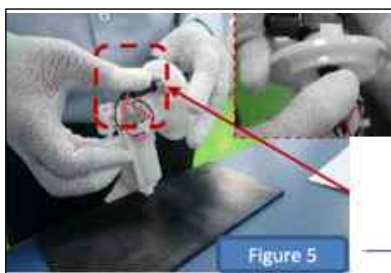

Figure 5
- 1.There should be no force applied on Holder Harness & Terminal area as shown in Figure 5.